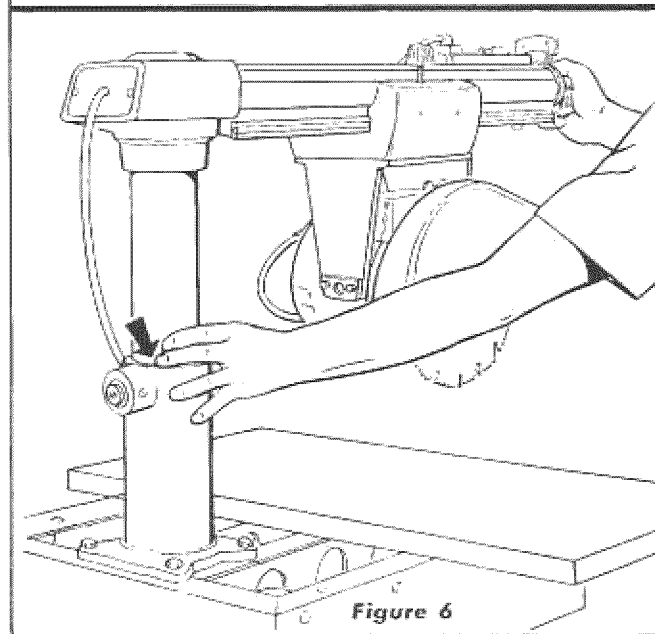

Figure 6
2. Grasp arm latch handle (20, figure 24) with one hand and hold fingers of other hand at parting line between column tube and column support. (See figure 6.) Apply gentle side force to the radial arm in opposing directions. Any looseness between column and column support, (indicated by arrow in figure 6) can be felt with fingers.
3. If looseness can be felt, at point indicated by the arrow in figure 6, perform operations outlined in instructions that follow: